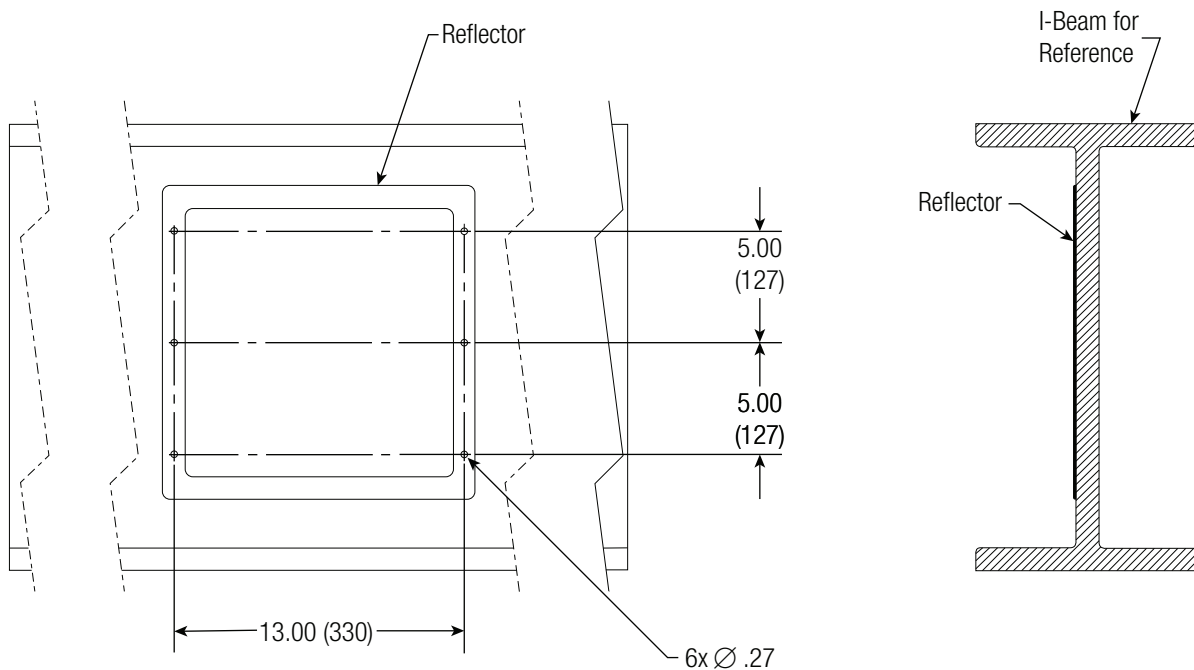

Figure 4-1
- Reflector plate comes with 6 holes predrilled. See **Figure 4-1**.
4.0.1 Mount reflector to the I-Beam using appropriate hardware. See **Figure 4-1**